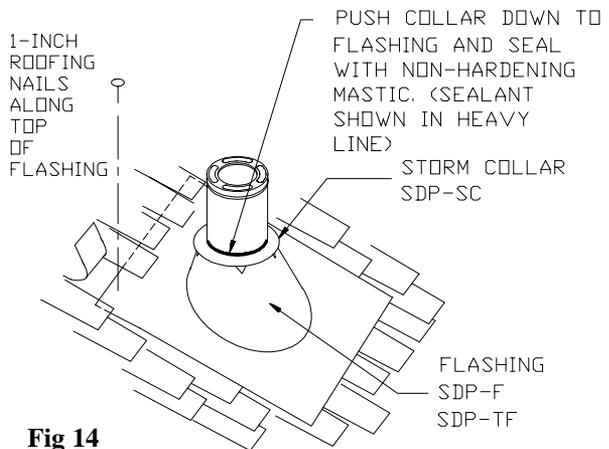
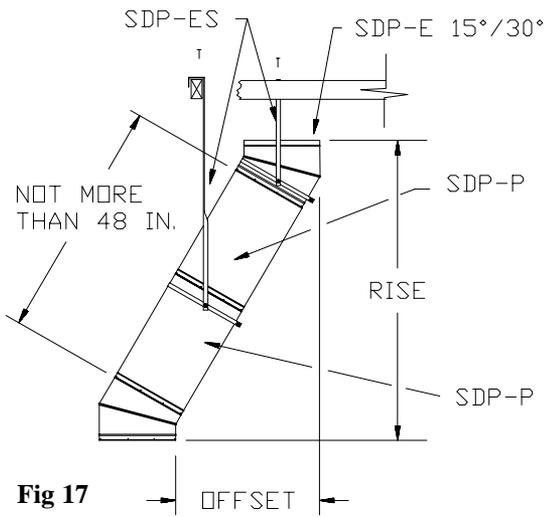

Fig 14
Fig 17
9. Attach Flashing: In new construction, assemble the **Chimney Sections** to a point above the roof, then slip the **Flashing** over the chimney. On an existing roof, center and install the **Flashing** before extending the chimney above the roof. Allow space to permit sliding the next **Chimney Section** up through the **Flashing**. Always insure the chimney remains vertical, and that at least a **2-inch clearance** to combustible materials is maintained all around. Install the upper edge of the **Flashing** under the roofing. Nail to the roof along the upper edge and to 4 inches below the upper edge on each side with 1-inch roofing nails. Do not nail the lower edge of the **Flashing**, or the lower half of the sides. (Figure 14).
10. Finish Top: Apply a non-hardening waterproof mastic around the chimney at the point where the **Storm Collar** will meet the chimney above the **Flashing**, and also along the vertical seam of the chimney pipe, which is exposed to the weather. (Figures 14 and 15). Slide the **Storm Collar** down over the chimney to the top of the **Flashing**. Tighten and seal the **Storm Collar** against the mastic. After installing sufficient **Chimney Sections** to meet the height requirement, (Figure 1), snap the **Chimney Cap** onto the top of the chimney. The **Chimney Cap** can be removed for chimney cleaning as described in the Chimney Maintenance section of the instructions. Use an **Extended Roof Bracket** if the chimney extends more than 4 feet above the roof. Figures 17, and 18 in the **Extended Roof Bracket** section.
1. Attach Elbows: Attach Elbows to Chimney Sections or other Elbows by twisting clockwise until they lock firmly. Attach one **Elbow** to the **Chimney Section** below, and align it for the offset. Refer to Table 3 to determine the required offset length and attach an appropriate length (or lengths) of **Chimney Section(s)** above the **Elbow**. Do not exceed the maximum lengths between the **Elbows** specified in Table 3. Attach the second **Elbow** above the **Chimney Section** to complete the offset. (Figure 17).